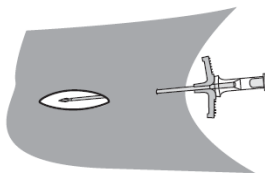

Figure 5
- Insert the introducer through the skin (approximately 3-5 cm away from the wound site) then push introducer into the wound site (Figure 5).